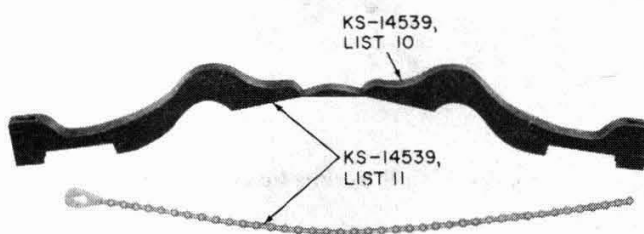

Fig. 6—KS-14539, List 10 and List 11 Guard
- Guard, KS-14539, List 10 and List 11, Fig. 6
KS-14539, List 10 and List 11 Guard (Fig. 6)